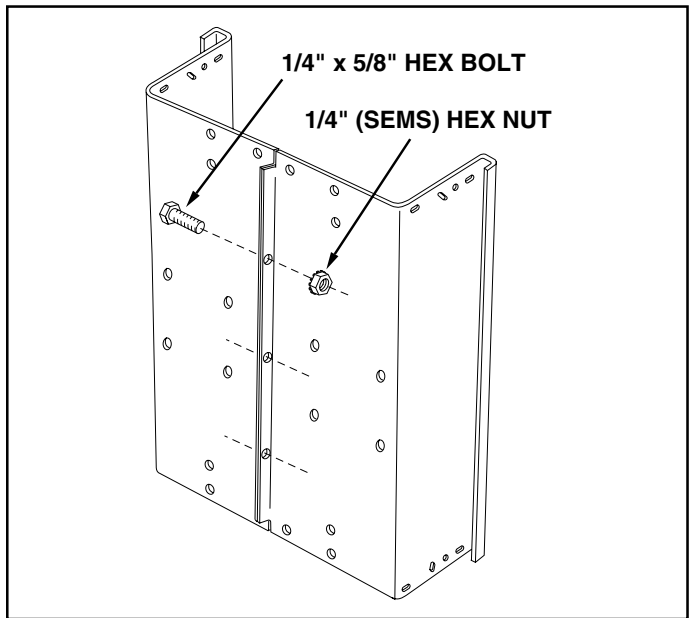

FIGURE 1
1. Place cart body halves upright on a smooth level surface such as a garage floor or a paved driveway. See figure 1.
2. Assemble cart body halves together using three 1/4" x 5/8" hex bolts and 1/4" (SEMS) hex nuts as shown in figure 1. **Do not tighten yet.**